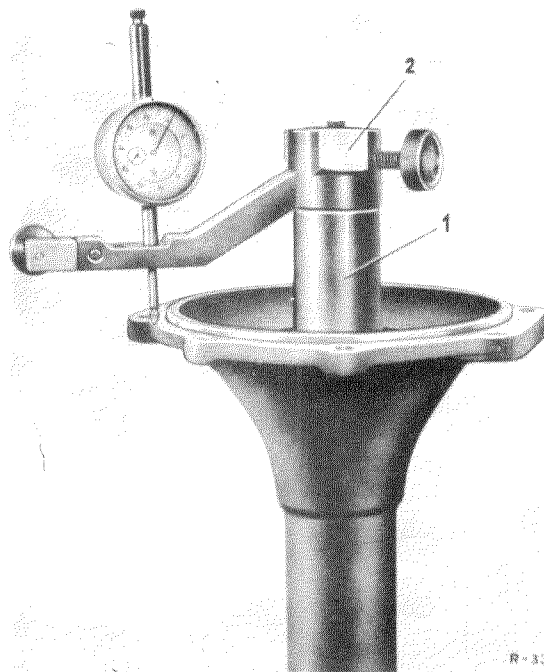

Fig. 35—5/9
6. Set up the left axle tube on the holding fixture (1) of Axle Tube Checking Device 180 589 09 21 and mount the dial gage holder (2) with dial gage on the checking device. Run the feeler of the dial gage around the bolt hole circle of the flange and in this way test the parallelity of the two flanges (Fig. 35—5/9).